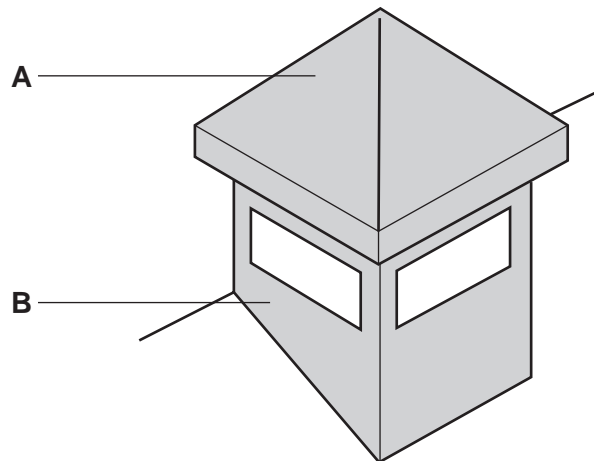

Fig. 7
- 4 **Fig. 7** shows an air vent on the roof of a workshop. The air vent is made from sheet metal.